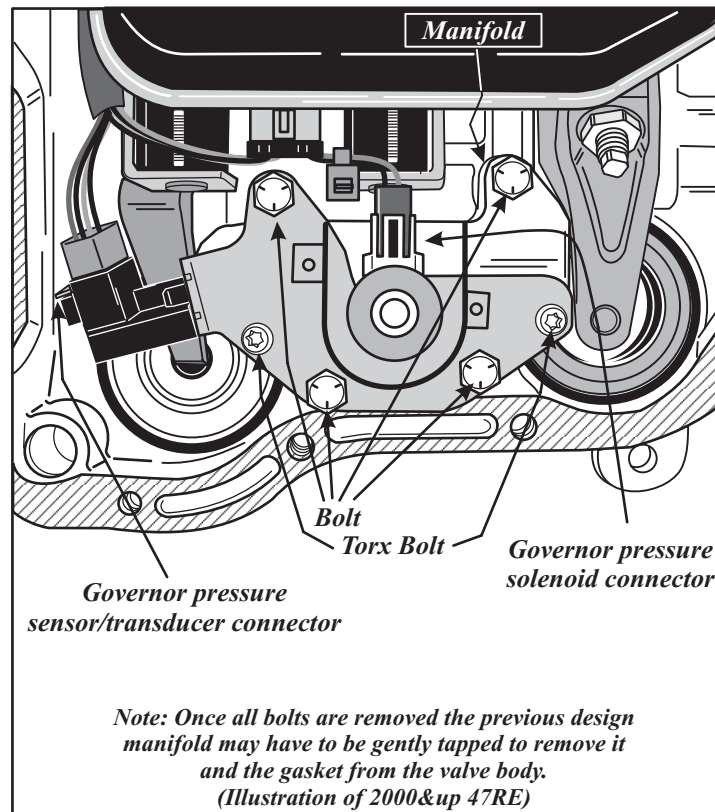

Figure 1
1. Remove the transmission pan and dis-connect the two connectors for the previous design Governor Pressure solenoid and Governor Pressure Sensor/transducer as shown in Figure 1.
2. Remove the Four 7/16 headed bolts, the two 25torx bolts and remove the previous design manifold and gasket, also shown in Figure 1.